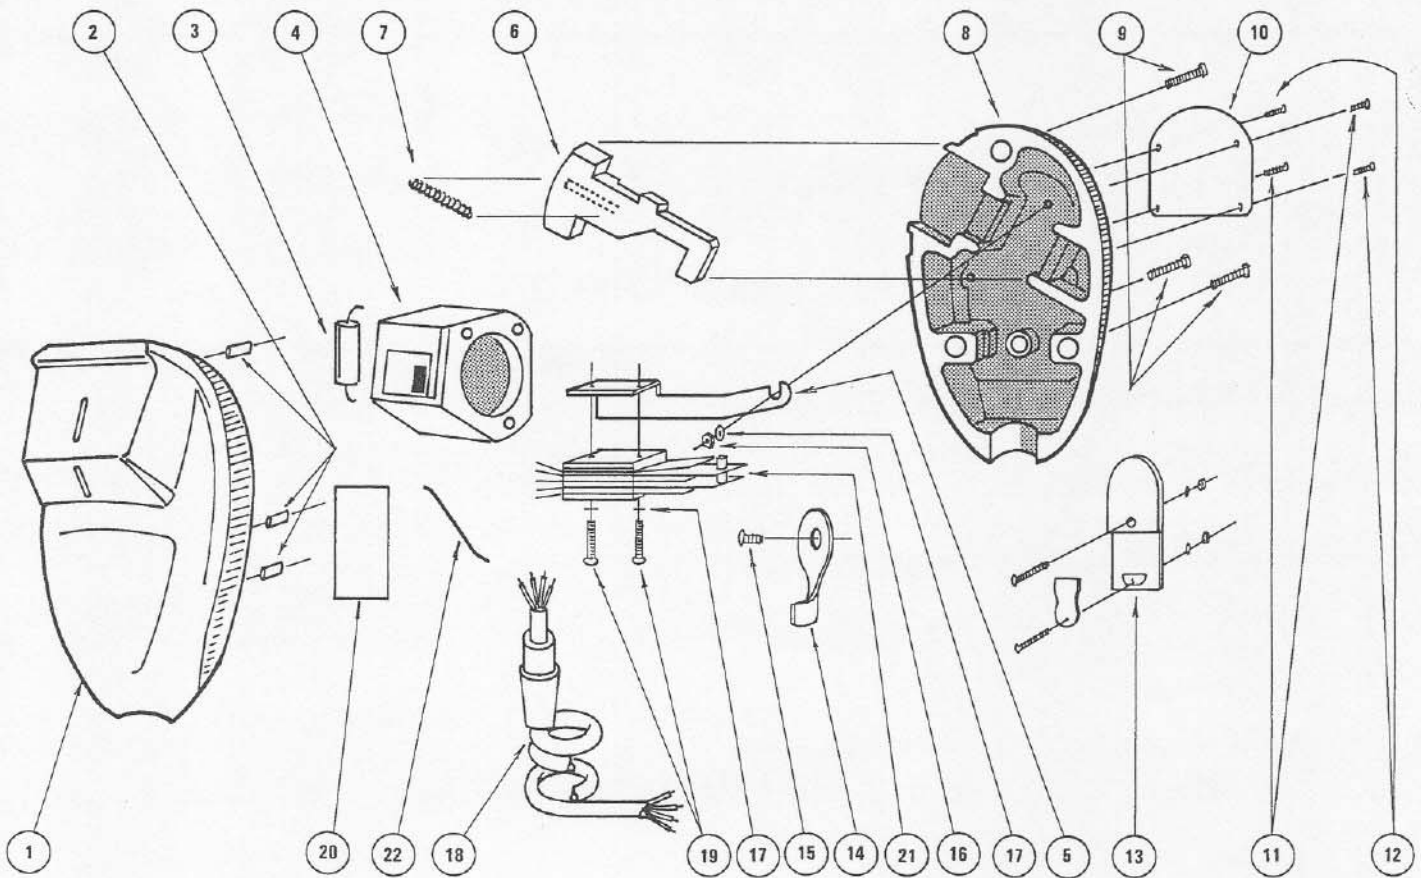

Figure 1 - Assembly Drawing
2. Disassembly: (See Figure 1)
- b. Do not disassemble the head and capacitor subassembly (2) to (6) unless capacitor or head must be replaced. If this is necessary, proceed as indicated in Steps c and d.
- c. With an eyedropper, apply Esso Solvent No. 1 at sides and bottom of head assembly (3). Allow solvent time to dissolve the cement. Hold head to front case (6) and gently pry head assembly loose with a screwdriver.
- e. Do not unsolder leads to switch unless it is necessary to replace switch assembly or cable (10).